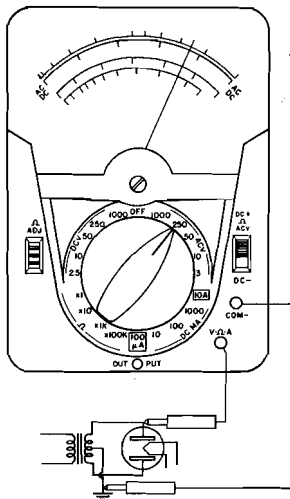

Fig. 2 Measuring AC Volts
3. Connect the test probes across the voltage to be measured as shown in Fig. 2.